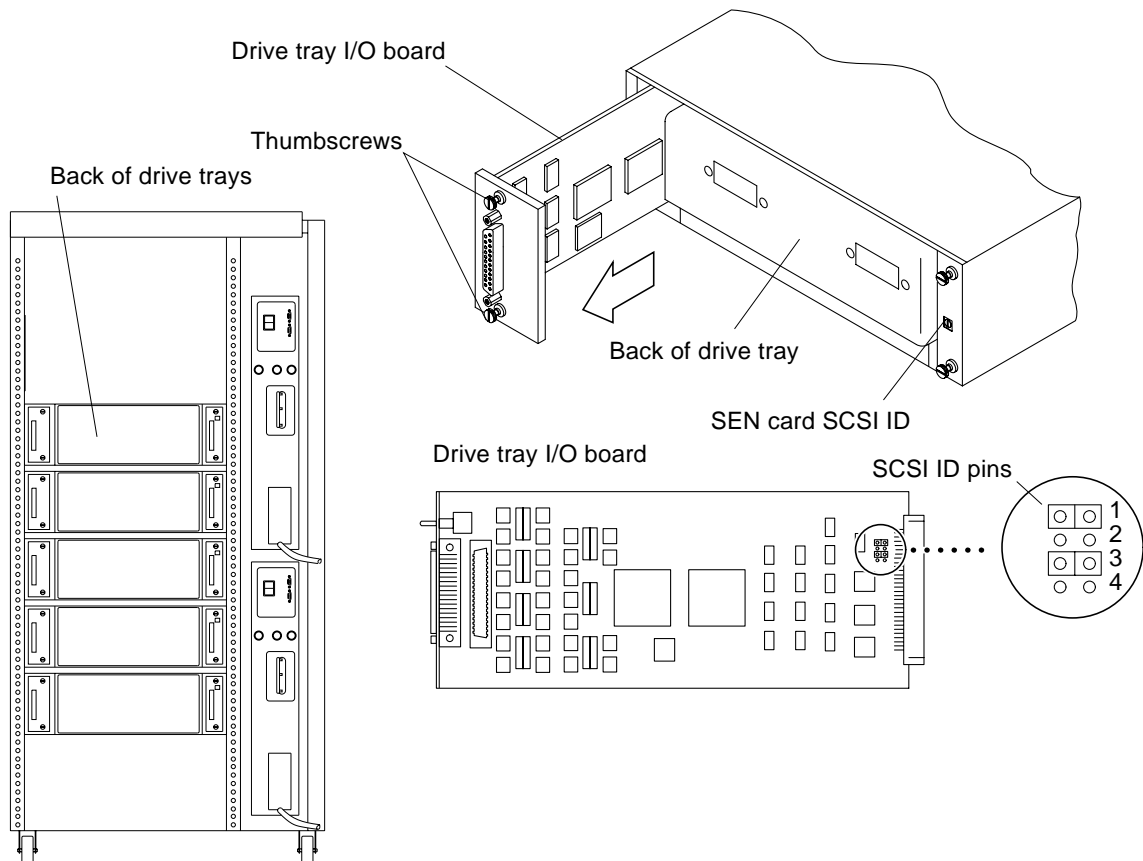

FIGURE 1-2 Removing the Drive Tray I/O Board and Setting SCSI ID Jumpers
2. **Beginning with the top or bottom drive tray, loosen the two thumbscrews on the back left side (connector side) of the tray (FIGURE 1-2).**
3. **Pull the I/O board out of the drive tray with your left hand (FIGURE 1-2).**
4. Move the jumpers to the first and third sets of pins (FIGURE 1-2).
Holding the I/O board in your left hand, look in the upper right corner. There are eight pins (four pairs aligned vertically) below the J2 circuit and above three black chips. There should be two jumpers attached to two or more pins. Move these jumpers to match the placement shown in FIGURE 1-2.
6. Set the SEN card SCSI ID switch to F (FIGURE 1-2).